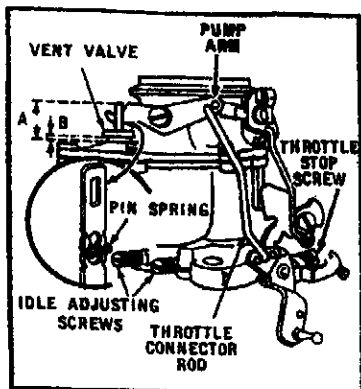

FIGURE 2
B. Pump: (Fig. 2)
G. Idle Mixture and Speed: (Fig. 2)